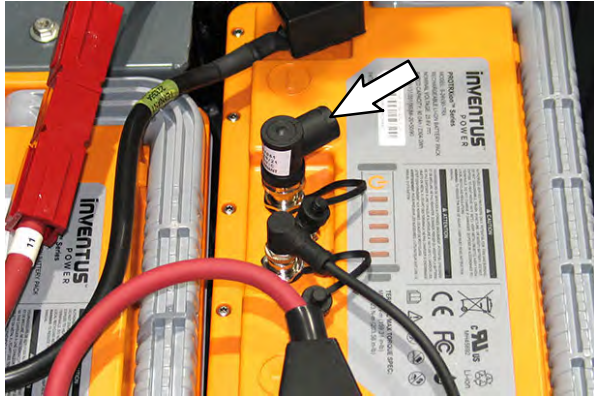
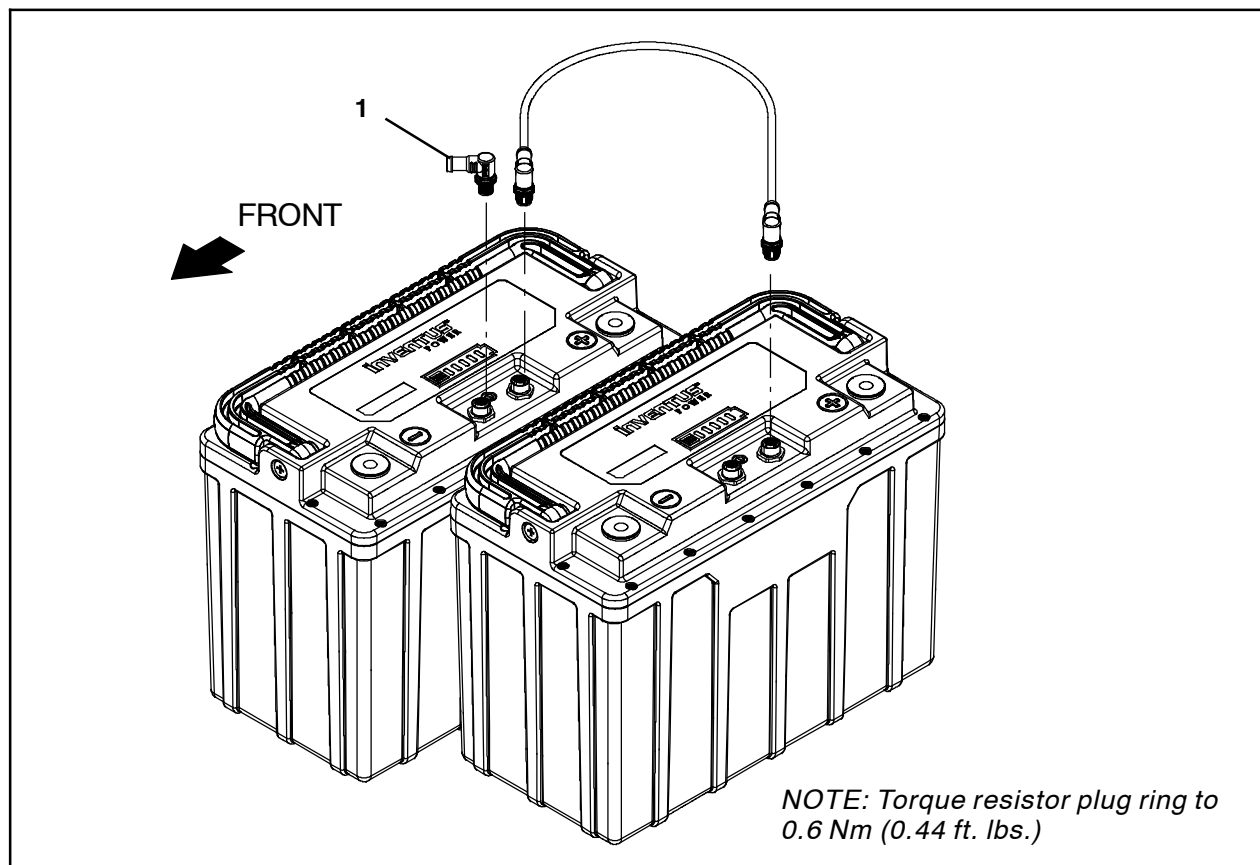

FIG. 2
FIG. 3 - T380AMR
1. Disconnect the resistor plug from the lithium battery communication terminal. Turn resistor plug ring counterclockwise to loosen/disconnect. Discard the removed resistor plug. (Fig. 2/Fig. 3)
2. Connect the new resistor plug (1) to the lithium battery communication terminal where the removed resistor plug was previously located. Turn resistor plug ring clockwise to tighten/connect. Torque resistor plug ring to 0.6 Nm (0.44 ft. lbs.). (Fig. 2/Fig. 3)